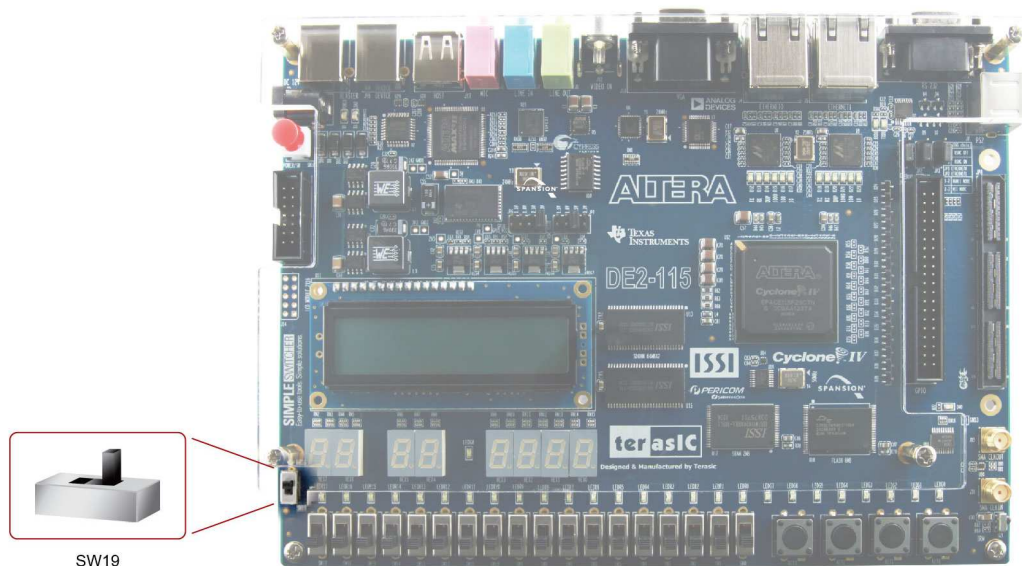

Figure 4-4 The RUN/PROG switch (SW19) is set in JTAG mode
- Configure the JTAG programming circuit by setting the RUN/PROG slide switch (SW19) to the RUN position (See Figure 4-4)